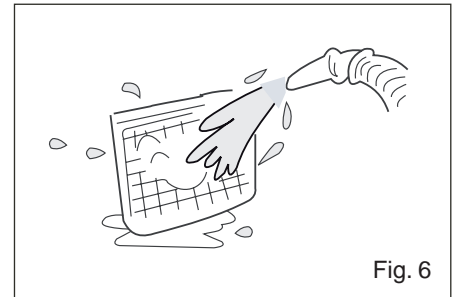

Fig. 6
- 3) If air filter is very dirty, wash it under low pressure running water (Fig. 6), or immerse it in just tepid water and neutral soap. In both cases, carry out the cleaning gently, in order to avoid to damage the filtering net.